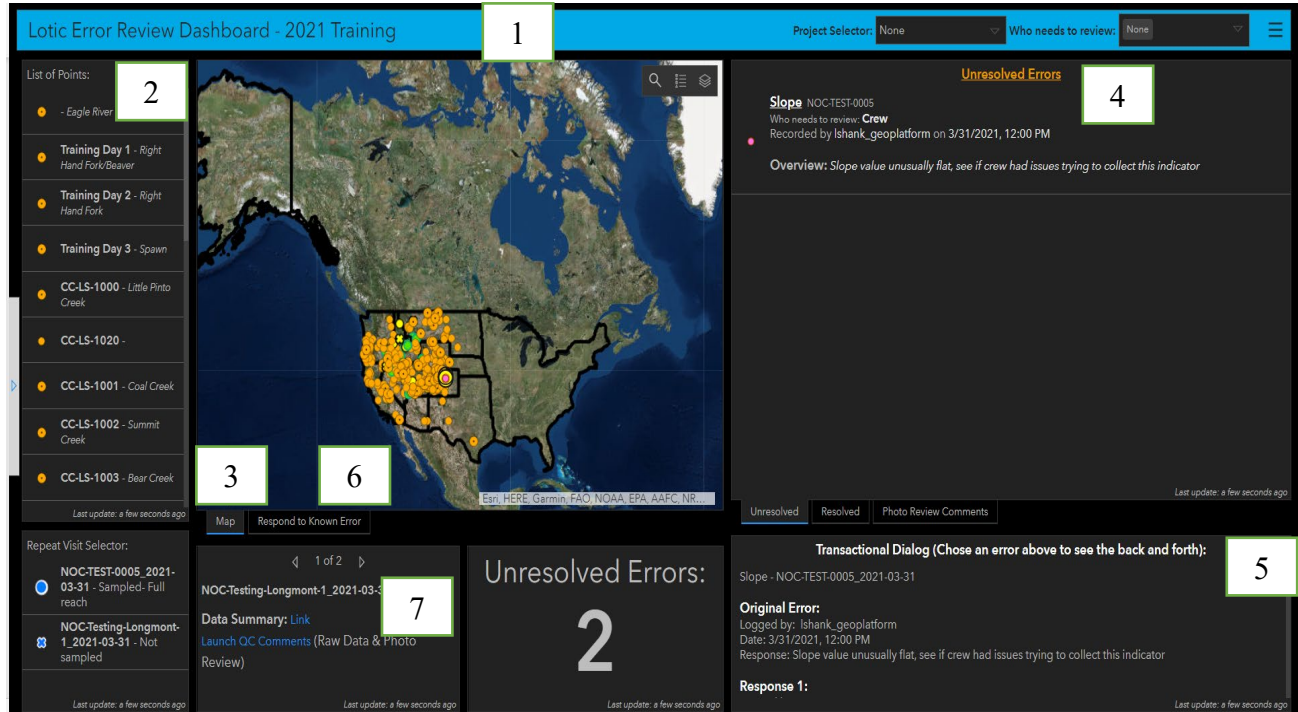

Figure 4. Screenshot of Error Review Dashboard. Numbers correspond to dashboard key components listed above.
- Prior to reviewing data from the crew's first trip, watch the QC webinar which covers detailed instructions on how to use the Error Review Dashboard. Only general instructions are provided below. The error review dashboard has the following key components (Figure 4):
- B. Use the blue bar at the top (Figure 4, Label #1) to filter points for a given project and your specific role (e.g., crew or project lead). Note for the role filters you can select multiple options from the dropdown. Selected options have a blue tab to the left.
- C. Review the “Unresolved Errors” and “Transactional Dialog” section on the right side of your screen (Figure 4, Label 4 & 5). This list will be filtered based off your choices in B above and will be sorted so that the oldest recorded errors are on the top of the list.
- b. The “Transactional Dialog” box (Figure 4, Label #5) displays what has already been looked into and what information is still needed to resolve the error. This should be reviewed before responding to errors in case there are additional details, questions, or resolutions logged.
- D. To respond to the error, while it is selected and blue in the Unresolved Errors section, click the “Respond to Known Error” tab in the center of the page (Figure 4, Label #6). This will open an embedded Survey form and will prepopulate it based off the prior individual’s responses.
- E. From the list in the “Unresolved Errors” section (Figure 4, Label #4), select the next error on the list and repeat through steps C-D until everything has been responded to.